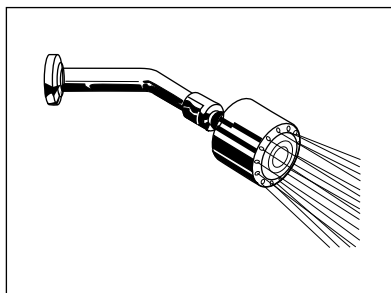

FIGURE 4
6. Apply one to two turns of the white Teflon® plumber's tape to shower pipe threads in a clockwise direction as show in Figure 4.